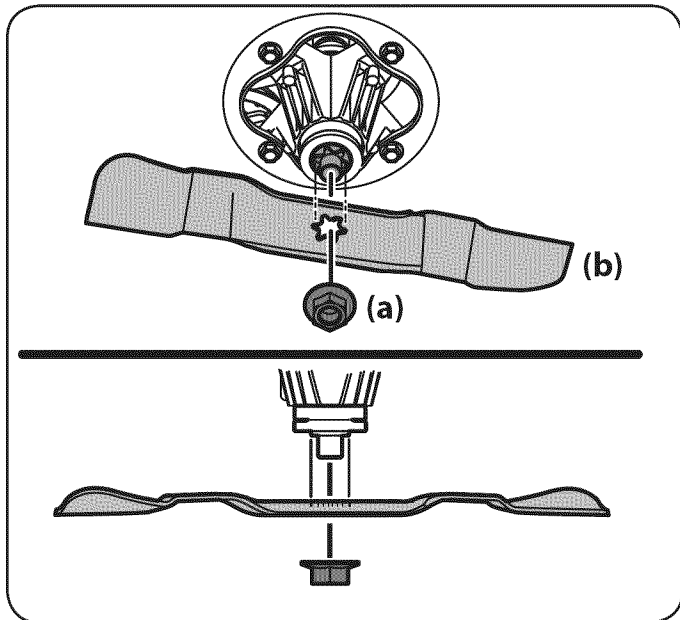

Figure 15
1. Remove the hex flange nuts (a) that secure each blade to the spindle assembly. See Figure 15.
1. Remove the blades (b) from the mowing deck. See Figure 15.